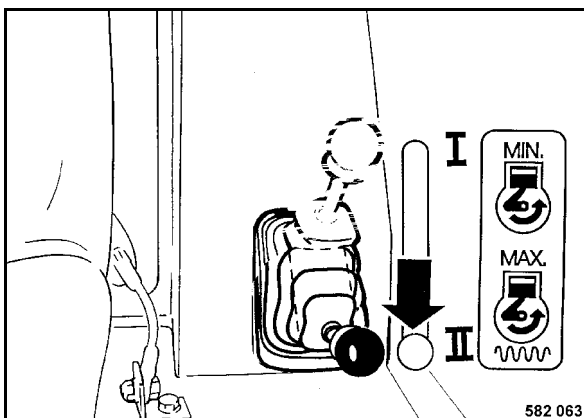

Fig. 29
- Set the throttle lever (Fig. 29) to position "II", full speed.